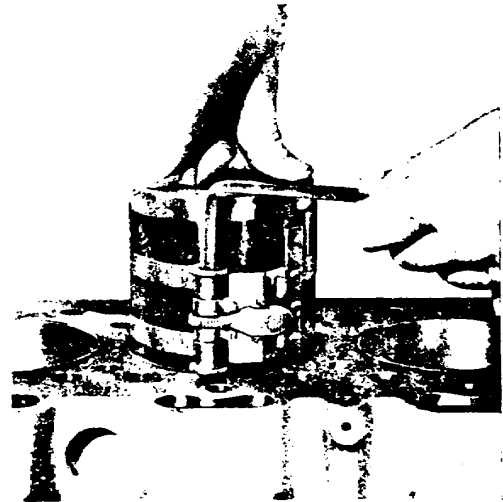

Fig. F.5.
2. Using a suitable ring guide (see Fig. F.5), insert the pistons and connecting rods into the top of the cylinder bores, ensuring that